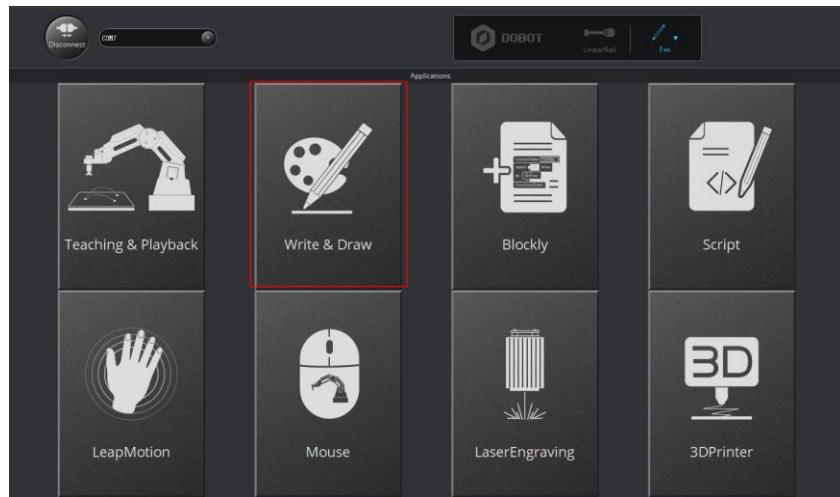

Figure 5.44 Click Write & Draw
**Step 1** Click Write & Draw on the DobotStudio page, as shown in Figure 5.44.